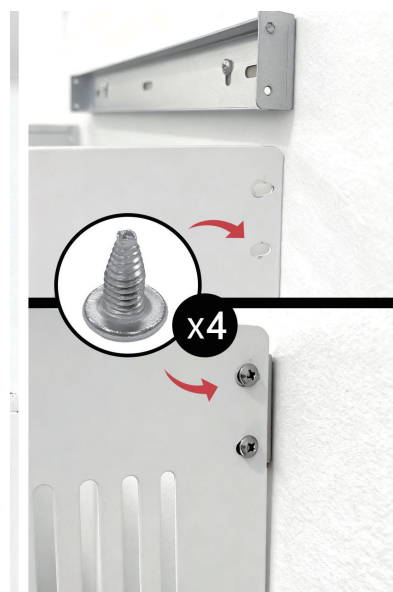

Figure 9
- Extend the upper chimney cover upward and **secure it on both sides** using the provided screws (**M4x8A**). Figure 9